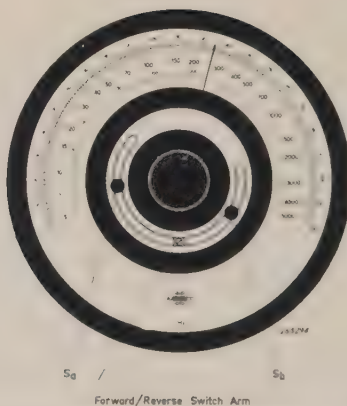

Fig. 5.1. Frequency Dial, also showing the adjustable stops for the automatic reversing mechanism.
- b. Loosen the finger screw Sa and Sb on the slotted plate, Fig. 5.1.
Normally the automatic frequency scanning is performed as a series of forward reverse scans and the scanning range is adjusted as described in section 5.2 above. However, in some cases it may be advantageous to scan the frequency range a number of times in one direction only. This is possible if the reverse-switch arm is removed. The arm can be easily unscrewed from the associated micro-switch by means of a screwdriver, see Fig 5.1. If the arm is pushed to the right before it is unscrewed a continuous "forward" scanning of the frequency range is obtained, while pushing the arm to the left results in continuous "reverse" scanning. When used for continuous uni-directional scanning it